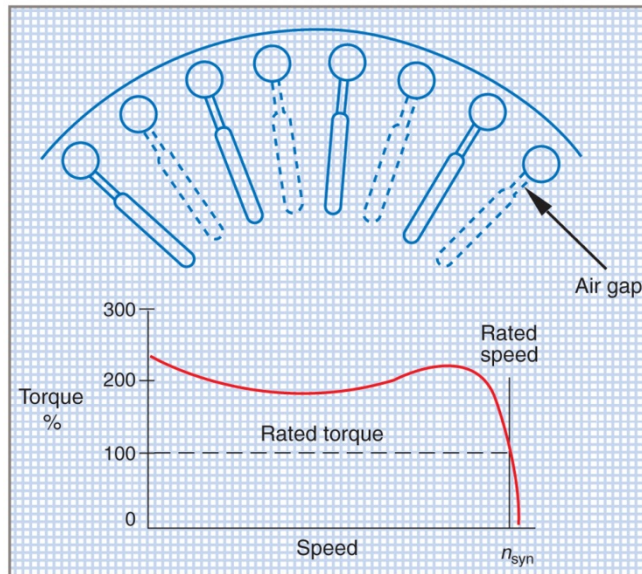

Figure 4 – Double squirrel cage rotor. Used in applications requiring high starting torque
32. A three-phase double squirrel cage induction motor rotor has two squirrel-cage windings instead of one. One winding is embedded deep in the rotor core and the other is closer to the surface of the rotor core; both windings are connected to the same end rings. The second rotor winding is not usually visible so it is not usually possible to distinguish a single cage rotor from a double cage rotor without reference to the manufacturer's data. Figure 4 shows how double cage rotor bars can be arranged in a rotor.